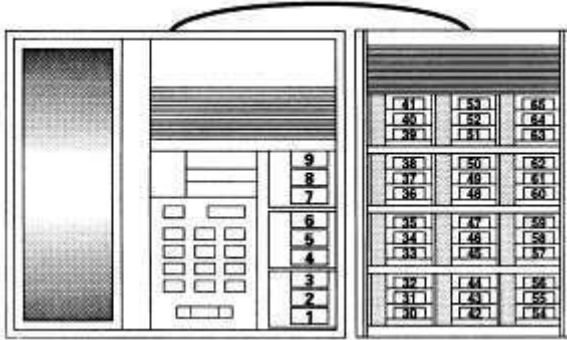
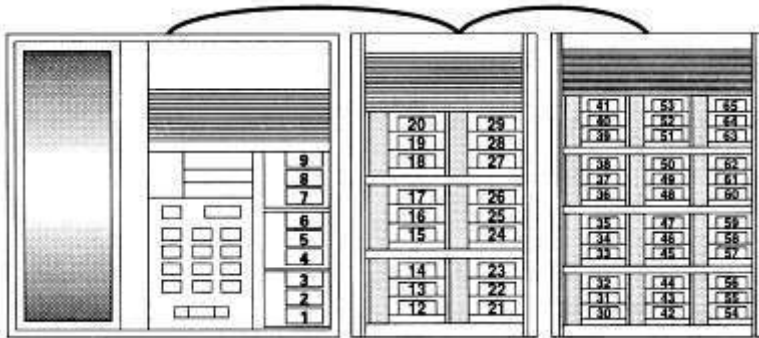

Fig. 3
Fig. 4
Step 3: Select the number on the key pad of the MBS that corresponds with the key numbering plan illustrated in Fig. 2, Fig. 3 and Fig. 4 on pages 4 and 5.